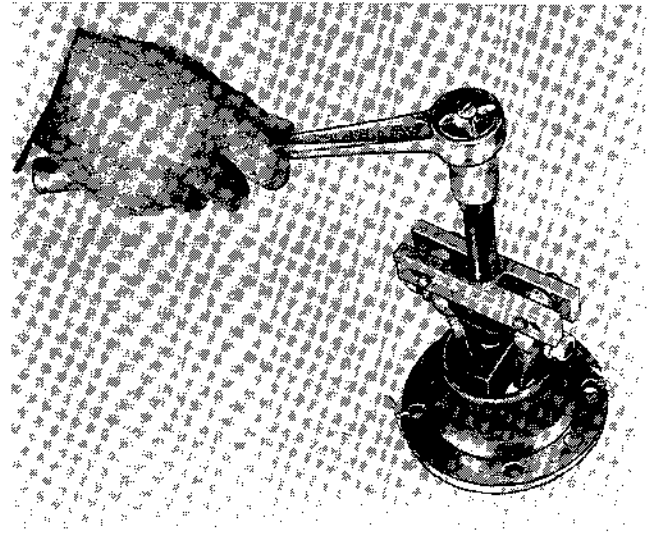

Figure 8 - Removing Bearing Cup
9. If a bearing carrier bearing requires servicing, remove bearing cup from carrier by using a puller; see Figure 8. The strings at the bolt holes in Figure 8 are used to keep shims with carrier